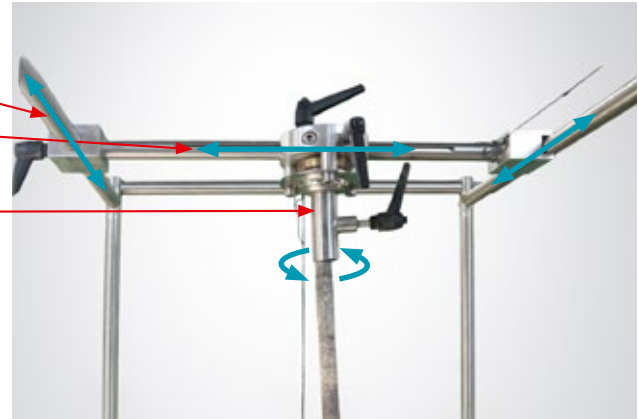

Fig 6
1.2 Possible movements for positioning the positive model in space (Fig 6)